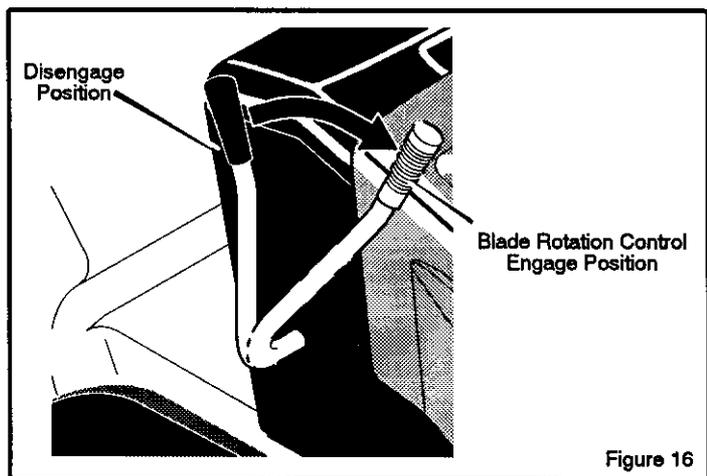

Figure 16
2. Move the **blade rotation control** to the **DISENGAGE** position (Figure 16).